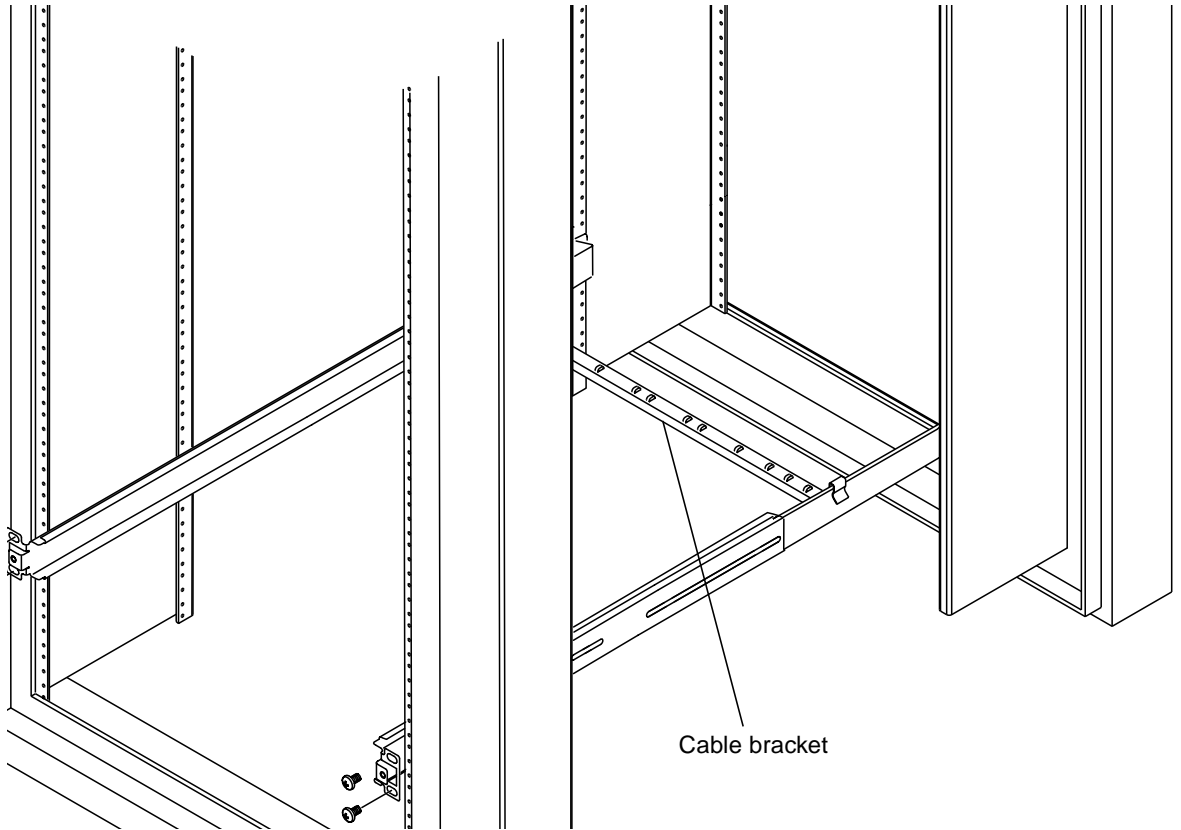

FIGURE 1-7 Cable Bracket Installed in Sun 72-inch Expansion Rack
- FIGURE 1-7 Cable Bracket Installed in Sun 72-inch Expansion Rack 7